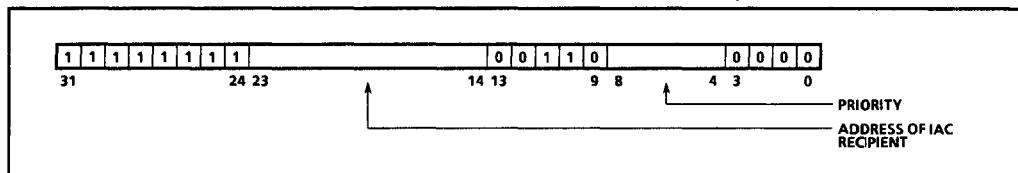

Figure 13-2: Encoding of Address for Processor Receiving an IAC
Sending an external IAC message is similar to sending an internal IAC message, except that the address of the receiving agent is specified in a slightly different way. Figure 13-2 shows the required encoding of the address for the receiving agent.
At initialization each agent on the bus is assigned a unique address in the range of FF000C00₁₆ to FFFFCC00₁₆. To send an IAC to an agent, the sending agent sends the message to the address assigned to the receiving agent. As shown in Figure 13-2, only bits 14 through 23 of this address are interpreted to determine the address of the receiving agent. Bits 4 through 8 of this address are used to encode the priority of the message.
2. Execute a **synmovq** instruction to move the message from its source address to the address of the receiving agent (encoded in the form shown in Figure 13-2).